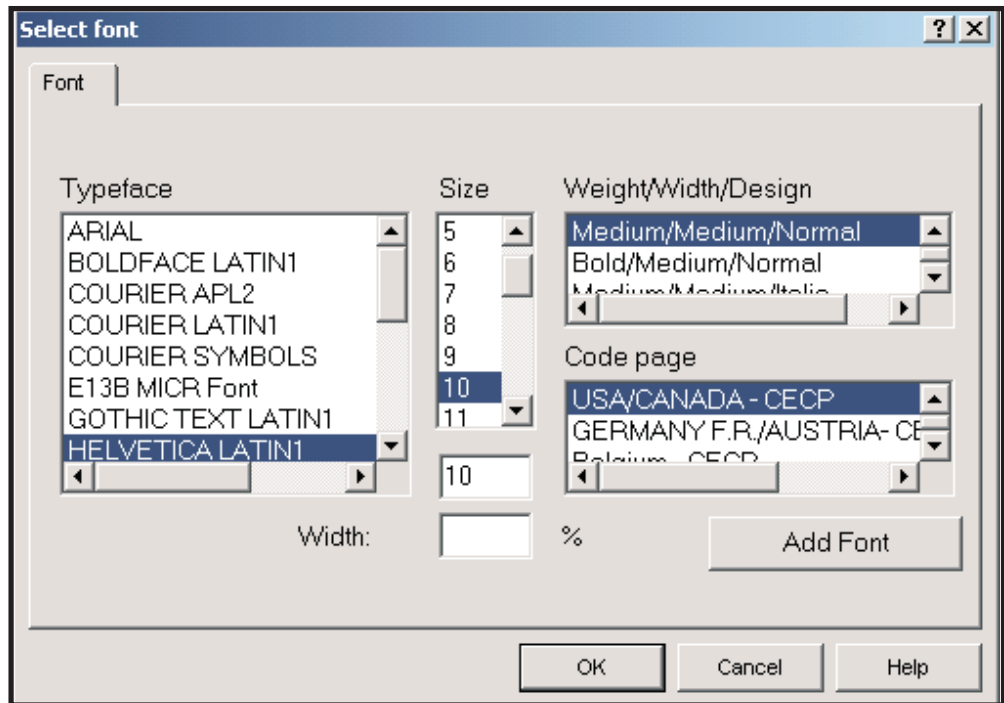

Figure 125. Select Font Dialog
- To enter the text block "Customer Number," select the Text tool: Starting at X = .65 inches and Y = 2.90 inches, draw a box with a width of 1.2 inches (use the ruler at the top to approximate the width) and a height tall enough to fit between the two lines you drew. When you release the mouse button, the **Select font** dialog is displayed, as shown in Figure 125 on page 206.